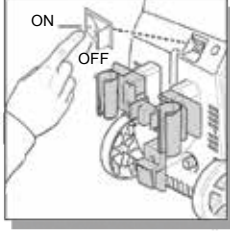

Fig. 15
Make sure the “ON/OFF” switch is in the “OFF” position. The power switch has international symbols for ‘on’ and ‘off’: On (--) Off (O). (Fig. 15)